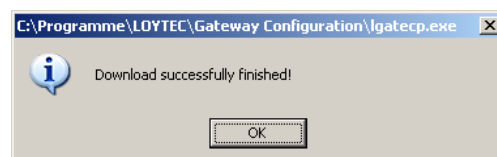

Figure 150: FTP download success dialog.
8. Observe the download progress. When the download is complete, the dialog shown in Figure 150 appears.